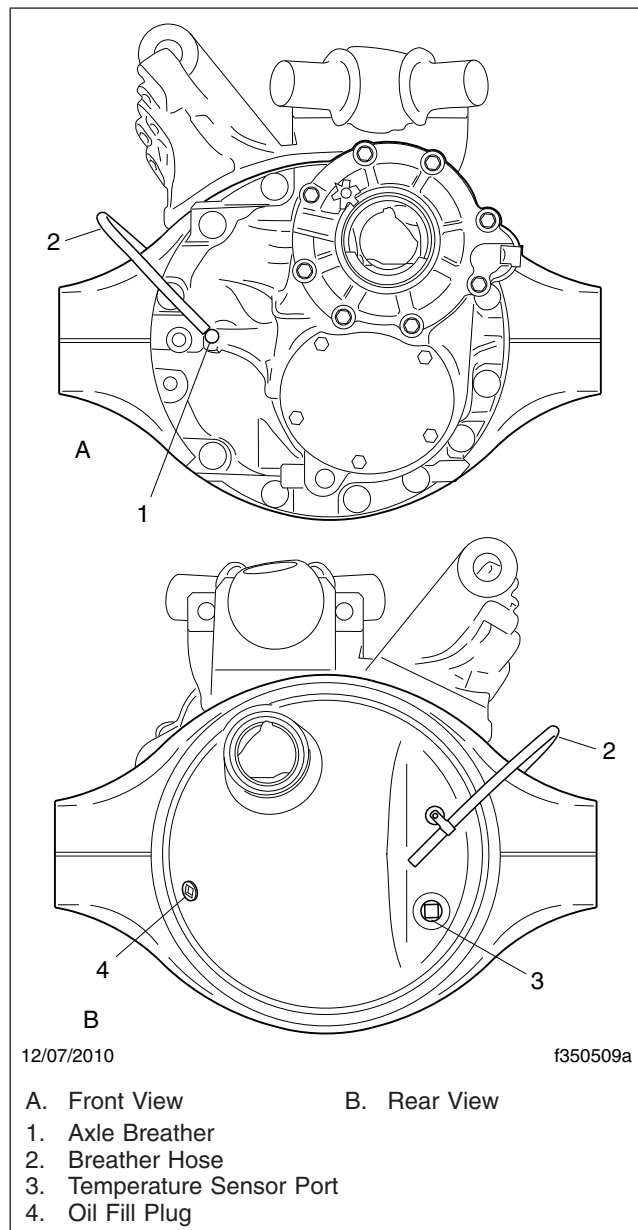

Fig. 1, Detroit Tandem Axle (forward axle shown)
2. Clean the fill plug and the area around it. In the axle housing rear cover, remove the plug from the oil fill hole. See Fig. 1.